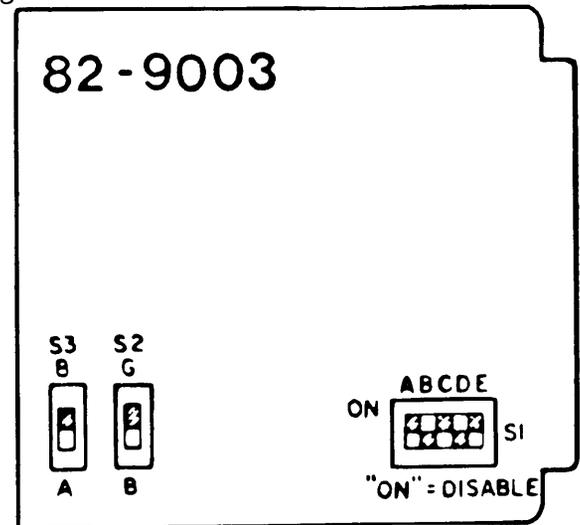

FIGURE 1
4.05 The 9003 module requires no alignment. Optioning consists of enabling the ringing generator alarm detectors, selecting the ringing generator bias, and selecting either continuous or interrupted ringing. The location of these option switches in the module's printed circuit board is shown in Figure 1.